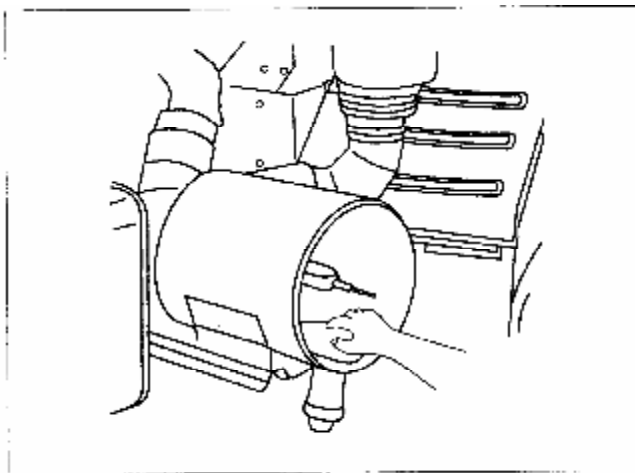

Figure 5-2 Air filter maintenance
(1) Clear air filter case and cover: when conducting a technical maintenance or changing element, wipe up dust inside or outside an air filter case, cover and gasket surface (see fig.5-2).